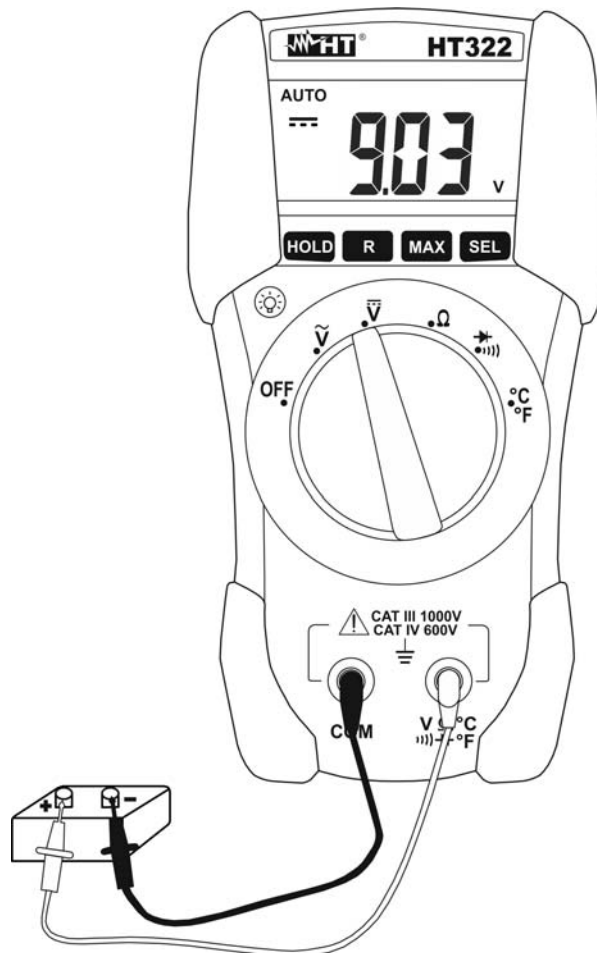

Fig. 2: Using the meter for DC Voltage measurement
4. Connect the red and black test leads to the positive and negative poles of the circuit under test respectively (see Fig. 2). The voltage value is displayed
6. The symbol **"-"** on the instrument display indicates that voltage has opposite direction with regard to the connection of Fig. 2